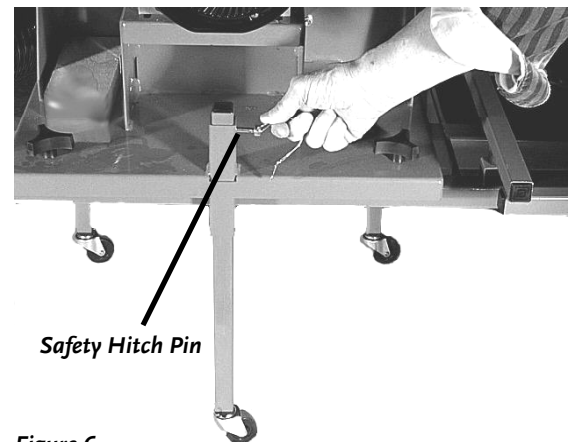

Figure 6
13. Holding the Tongue level, remove the Safety Hitch Pin from the nearest Support Leg w/Caster in the front of the Trailer Frame and allow the leg to drop. Replace the Safety Hitch Pin in the hole provided to secure the Leg in the down position (**Figure 6**).
14. The remaining two (2) Legs are installed upside down for packaging. You need to remove them and reinstall them from the bottom, making sure that the holes in the legs are on the same sides as the holes in the Engine Plate tubes. Replace the Safety Hitch Pins in the holes provided to secure the Legs in the down position (**Figure 6**).